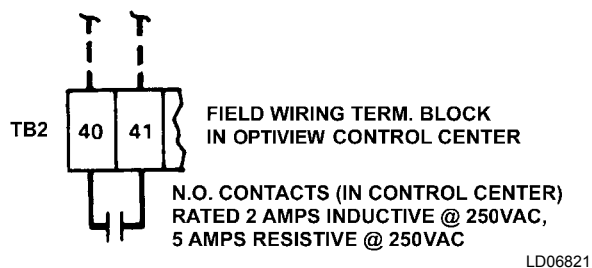

FIGURE 2 - CYCLING SHUTDOWN CONTACTS
- Cycling Shutdown – See *Figure 2 on page 7*.